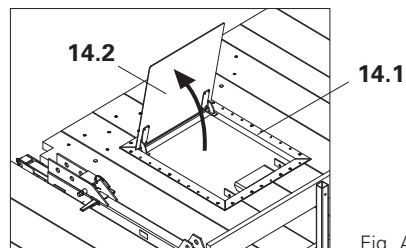

Fig. A2.05
- Place hinged hatch 55 x 60 (14.1) in the cut-out. The cover (14.2) opens towards the wall side. (Fig. A2.05)